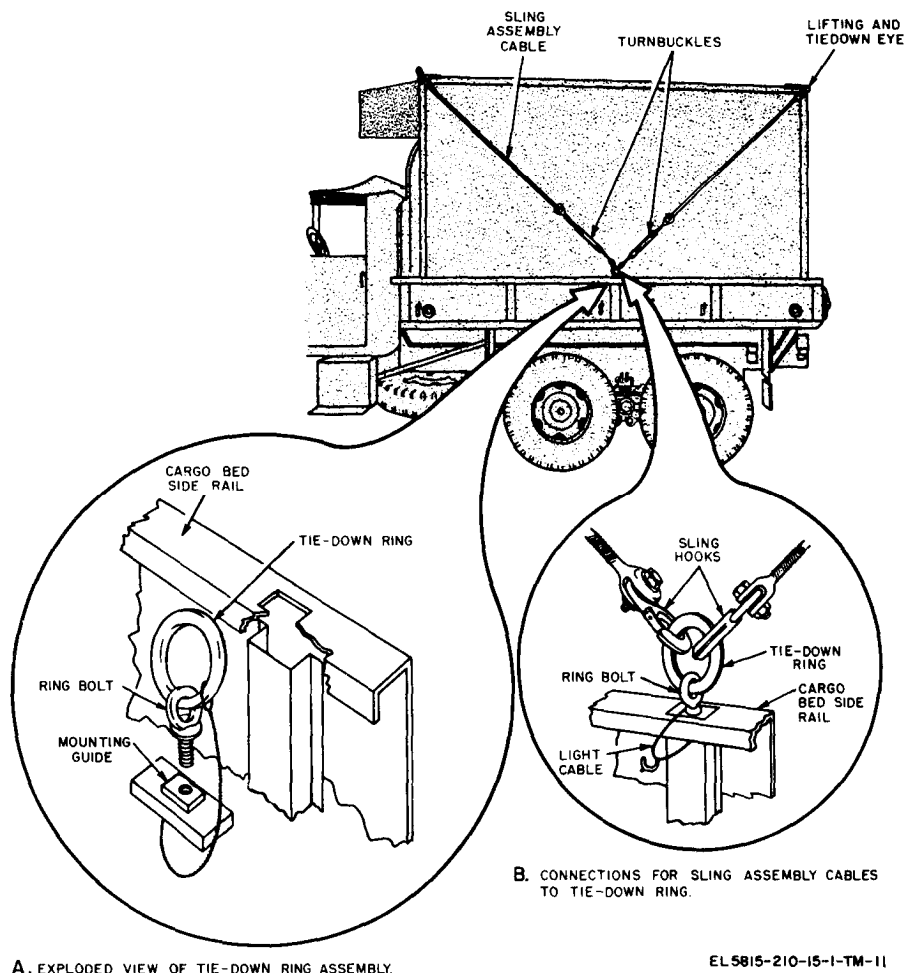

Figure 26. Tiedown ring assembly and sling assembly connection diagram, exploded view
*b. Securing AN/MSC-32 on Truck* (fig. 26).
- (1) Install the tiedown ring assembly (A, fig. 26)
- (2) Use the hook at the end farthest from the turnbuckle and hook each of the sling assemblies to a tiedown eye of the shelter.
- (3) Secure the sling hooks to the tiedown ring (B, fig. 26).
- (4) Follow the procedures given in (1) through (3) above to secure the other side of the shelter.
- (5) Tighten all turnbuckles evenly by hand; then turn each turnbuckle an additional one-half turn with a bar or rod inserted in the turnbuckle slot.
Delete figure 26 and substitute the new figure 26.